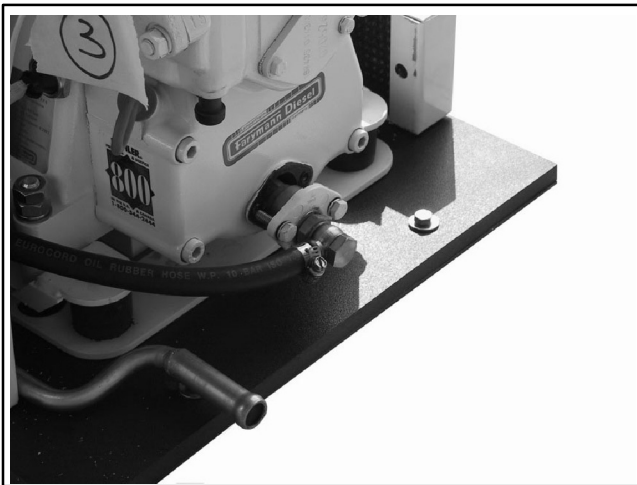

Figure 10-24 Oil Drain
2. Remove the oval flange of the oil drain. See Figure 10-24.